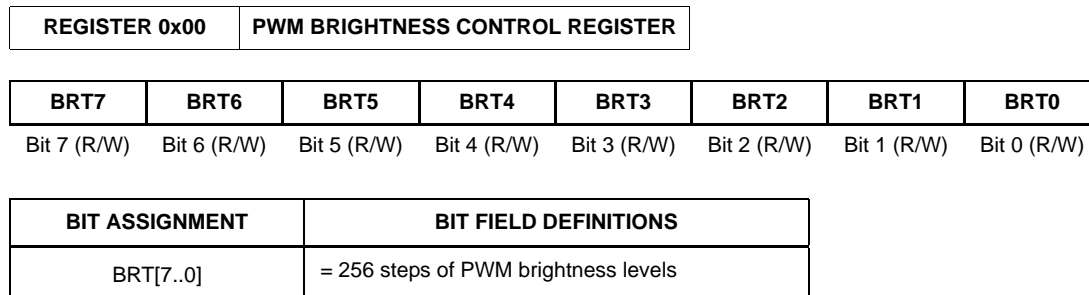

FIGURE 23. DESCRIPTIONS OF BRIGHTNESS CONTROL REGISTER
The Brightness control resolution has 256 steps of PWM duty cycle adjustment. The bit assignment is shown in Figure 23. All of the bits in this Brightness Control Register can be read or write. Step 0 corresponds to the minimum step where the current is less than 10µA. Step1 to step 255 represent the linear steps between 0.39% and 100% duty cycle with approximately 0.39% duty cycle adjustment per step.
when Bit 3 BL_STAT of register 0x02 is 1 and register 0x09 is not 0. See Figures 23 and 24.
- A value of 0 written to BL_CTL immediately turns off the BL. The BL is deemed to be off when Bit 3 BL_STAT of register 0x02 is 0 and register 0x09 is 0. See Figures 23 and 24.